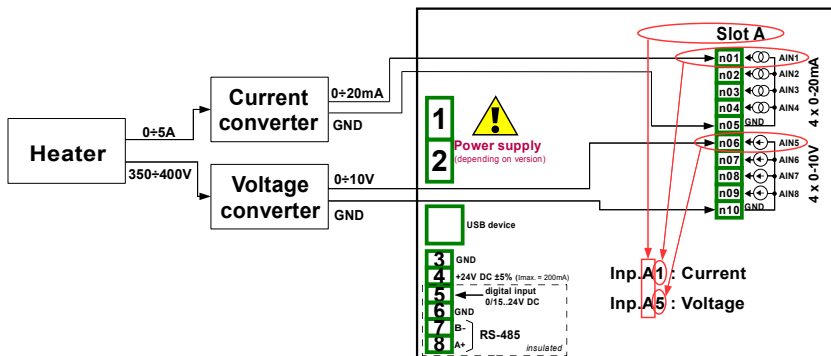

Fig. 7.52. Schematic diagram for the UI4 module
Before configure the device, connect the heater to converters and then to the device (in accordance with Fig. 7.52).
- choose as the source - **Inp. A1: Current** (see the connection in Fig. 7.52), press the **Source configuration** button to set the source configuration options,
- choose as the source - **Inp. A5: Voltage** (see the connection in Fig. 7.52), press the